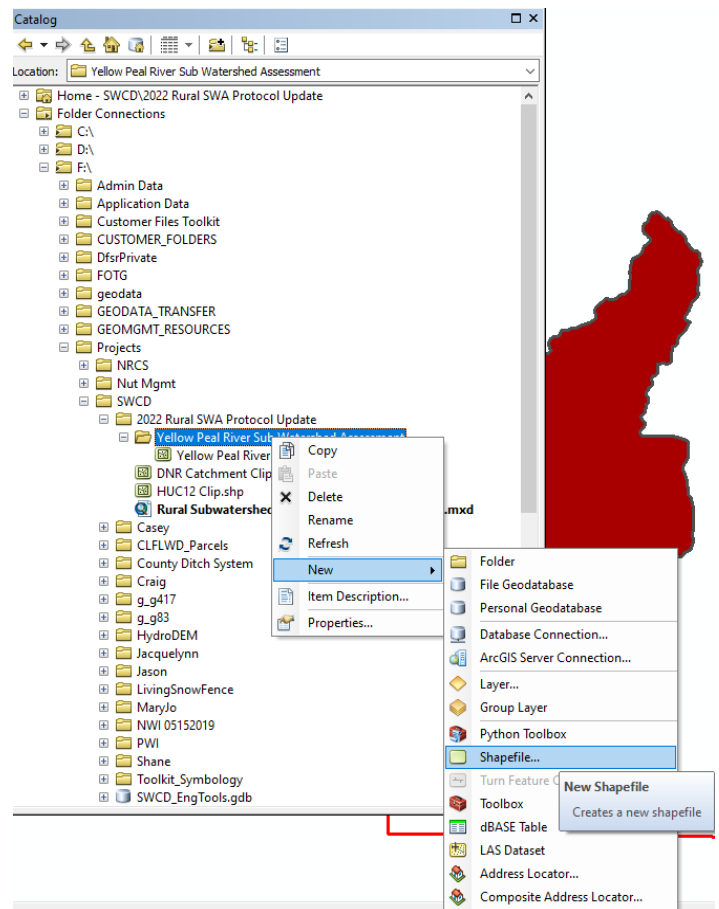

Figure 25. Create New Shapefile
- In the Catalog, right click on the folder where you'd like to store the new shapefile. Select New and then Shapefile. A dialog box will open (Figure 25).